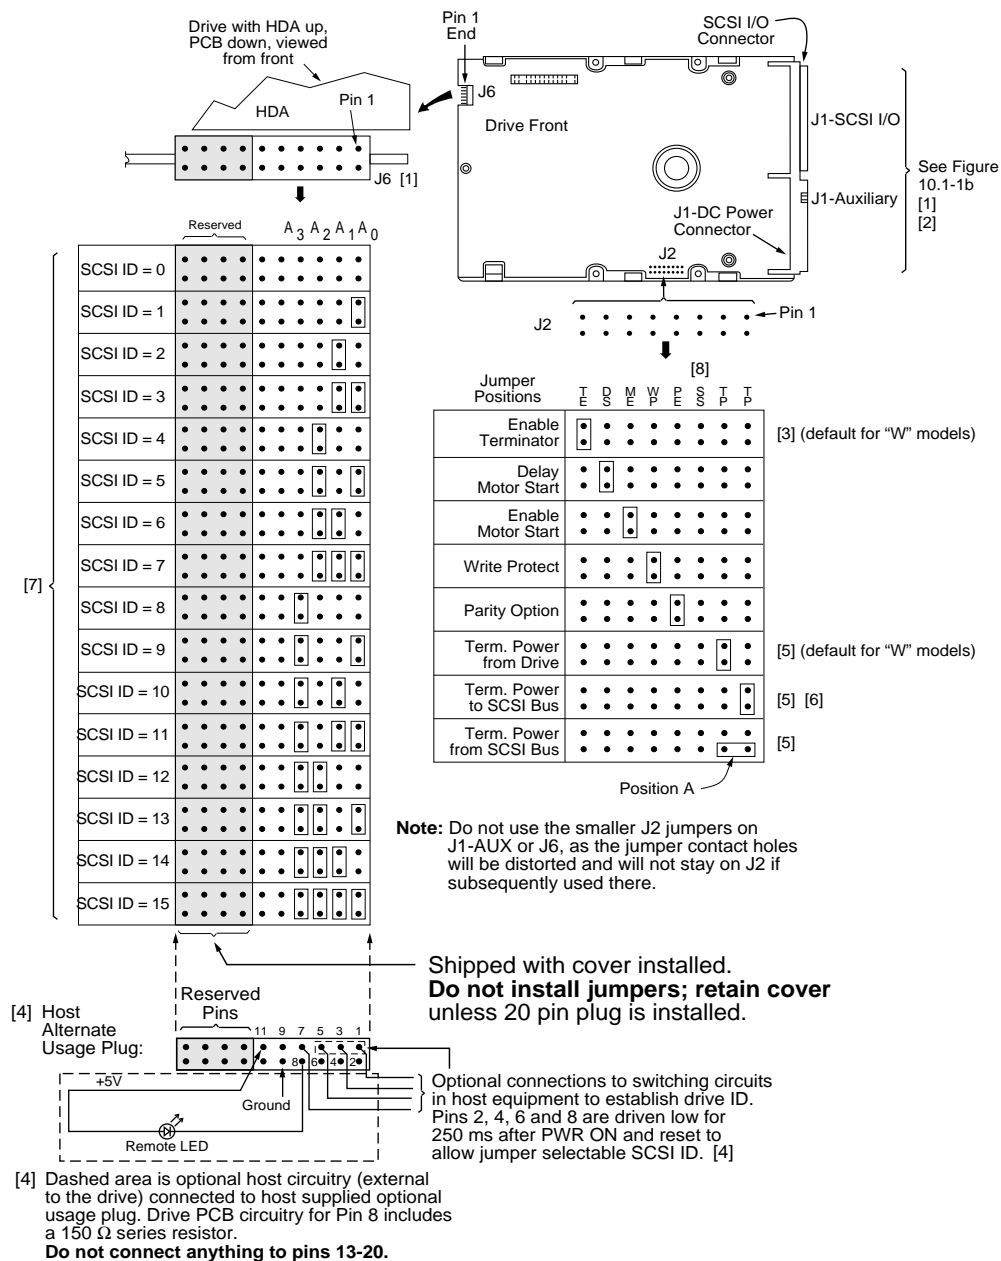
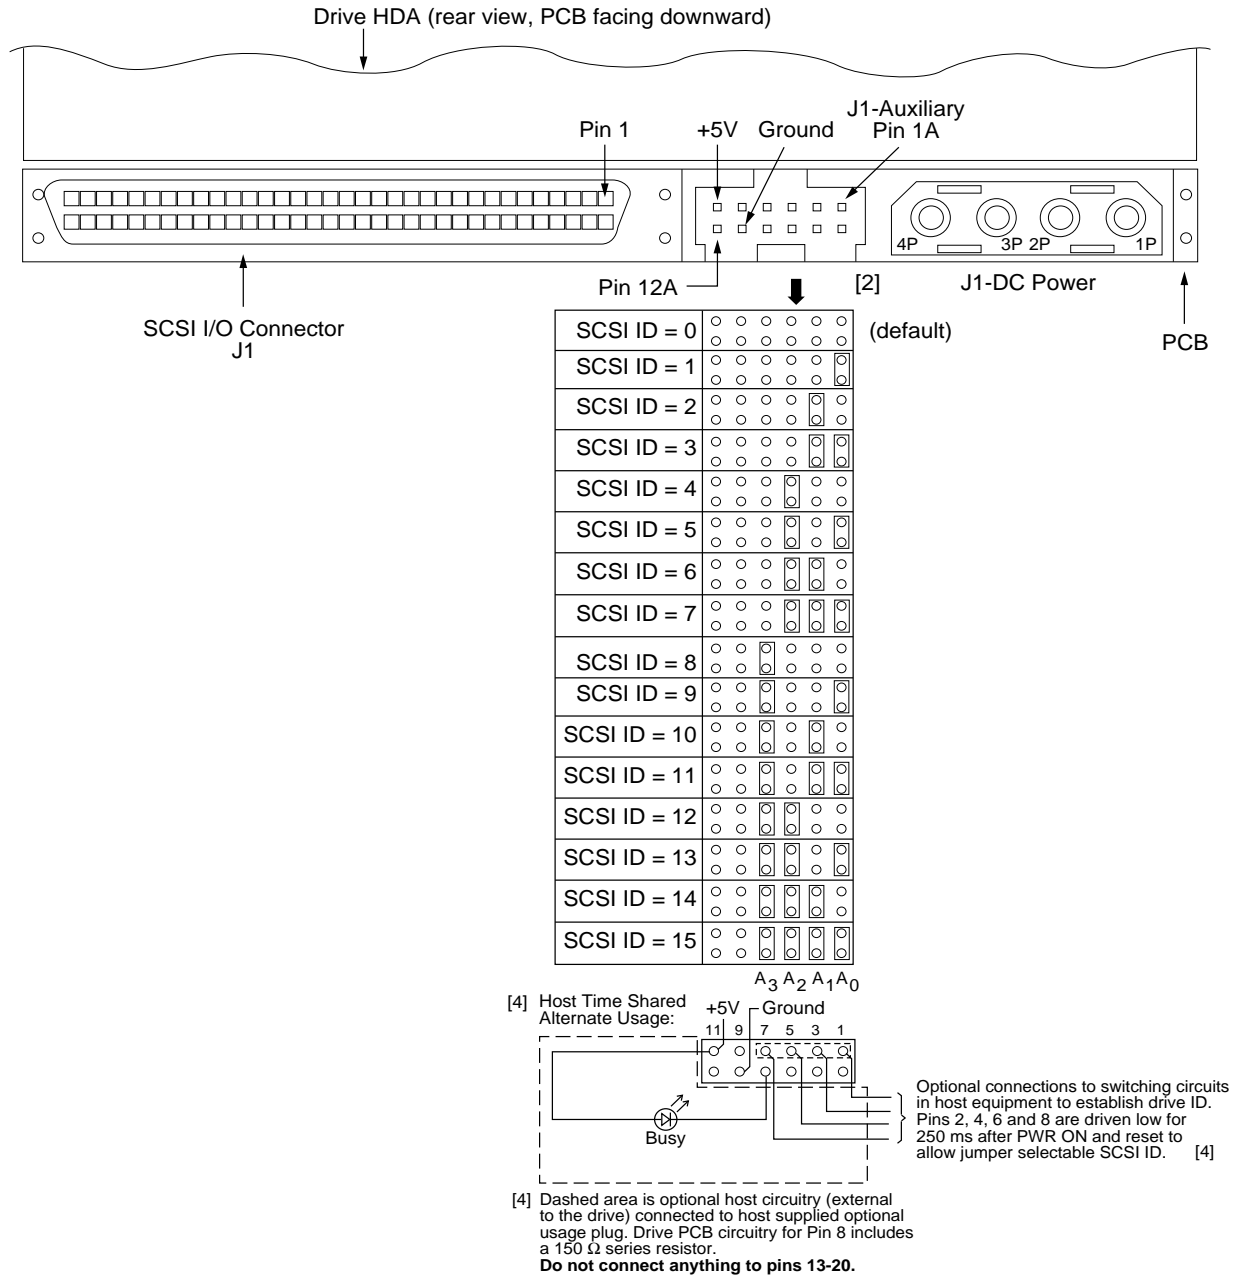
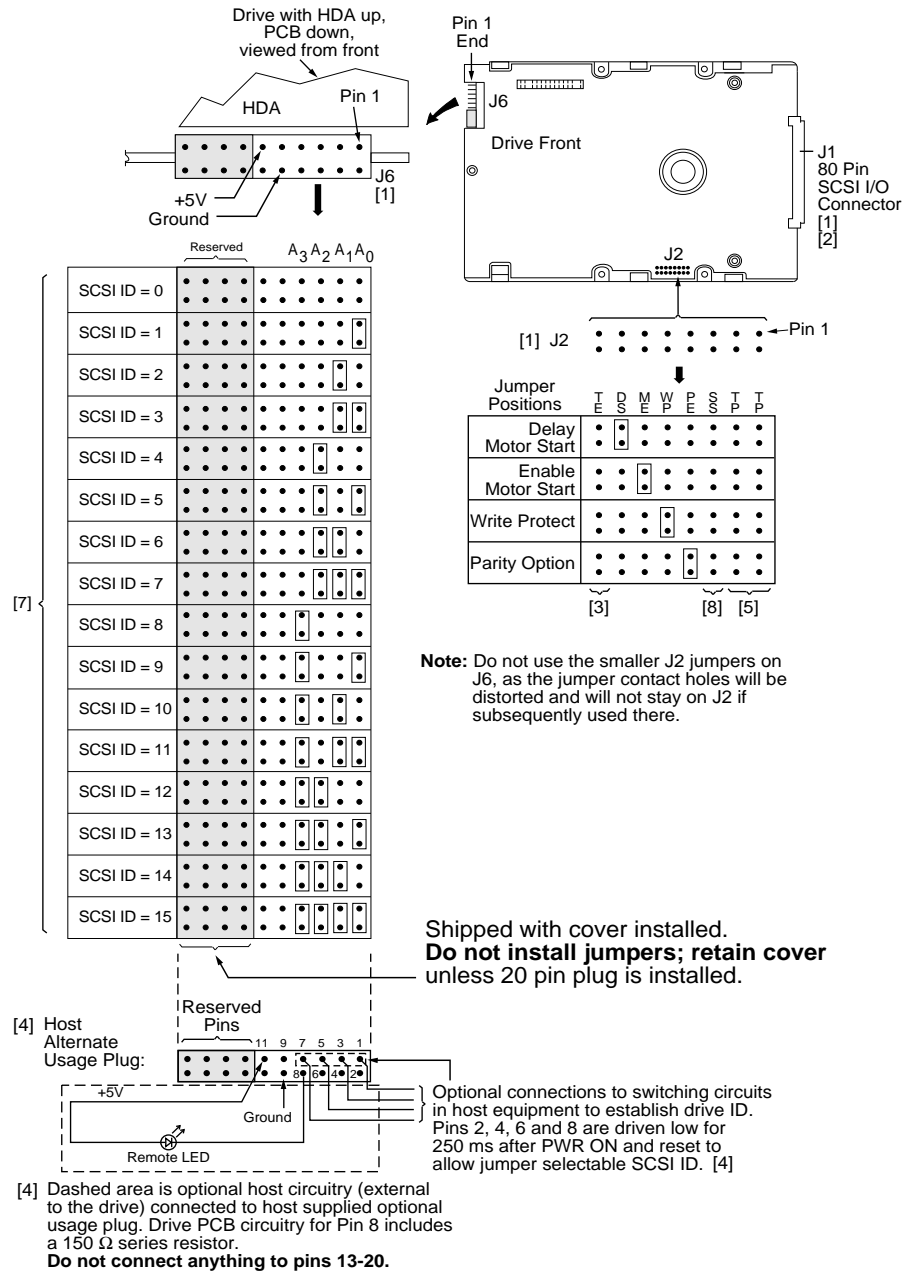

Figure 10.1-1a. Hawk 4 wide family models "W" and "WD" drive ID and option select header
Figure 10.1-1b. ST15230 "W/WD" family drive ID and option select header (Rear header details) (J1-auxiliary pins 1A-12A)
Figure 10.1-1c. ID and option select header for "WC/DC" models
Figure 10.1-1a shows a bottom view of the drive (PCB toward viewer) for the purpose of showing the drive ID and configuration option select jumper connectors for "W/WD" models. Figure 10.1-1c shows the jumper connectors for "WC/DC" model. Figure 10.1-1b shows a rear view of the "W/WD" models drive for the purpose of showing J1-auxiliary which has a duplicate pin configuration and purpose of J6 (Figure 10.1-1a) on the rear of the drive. Both J1-auxiliary and J6 have pins for selecting drive ID and for connecting the synchronized spindle cable and the remote LED cable. Only one or the other should be used, although using both at the same time would not damage the drive. The notes following the figures describe the functions of the various jumper positions on the three connectors J2, J1-auxiliary and J6. Suggested part number for the unusual J2 jumper is Molex 52747-0211 (Seagate P/N 77679052). A bag of the two jumper plug types used is shipped with standard OEM drives.
**Notes for Figure 10.1-1a, 10.1-1b, 10.1-1c:**